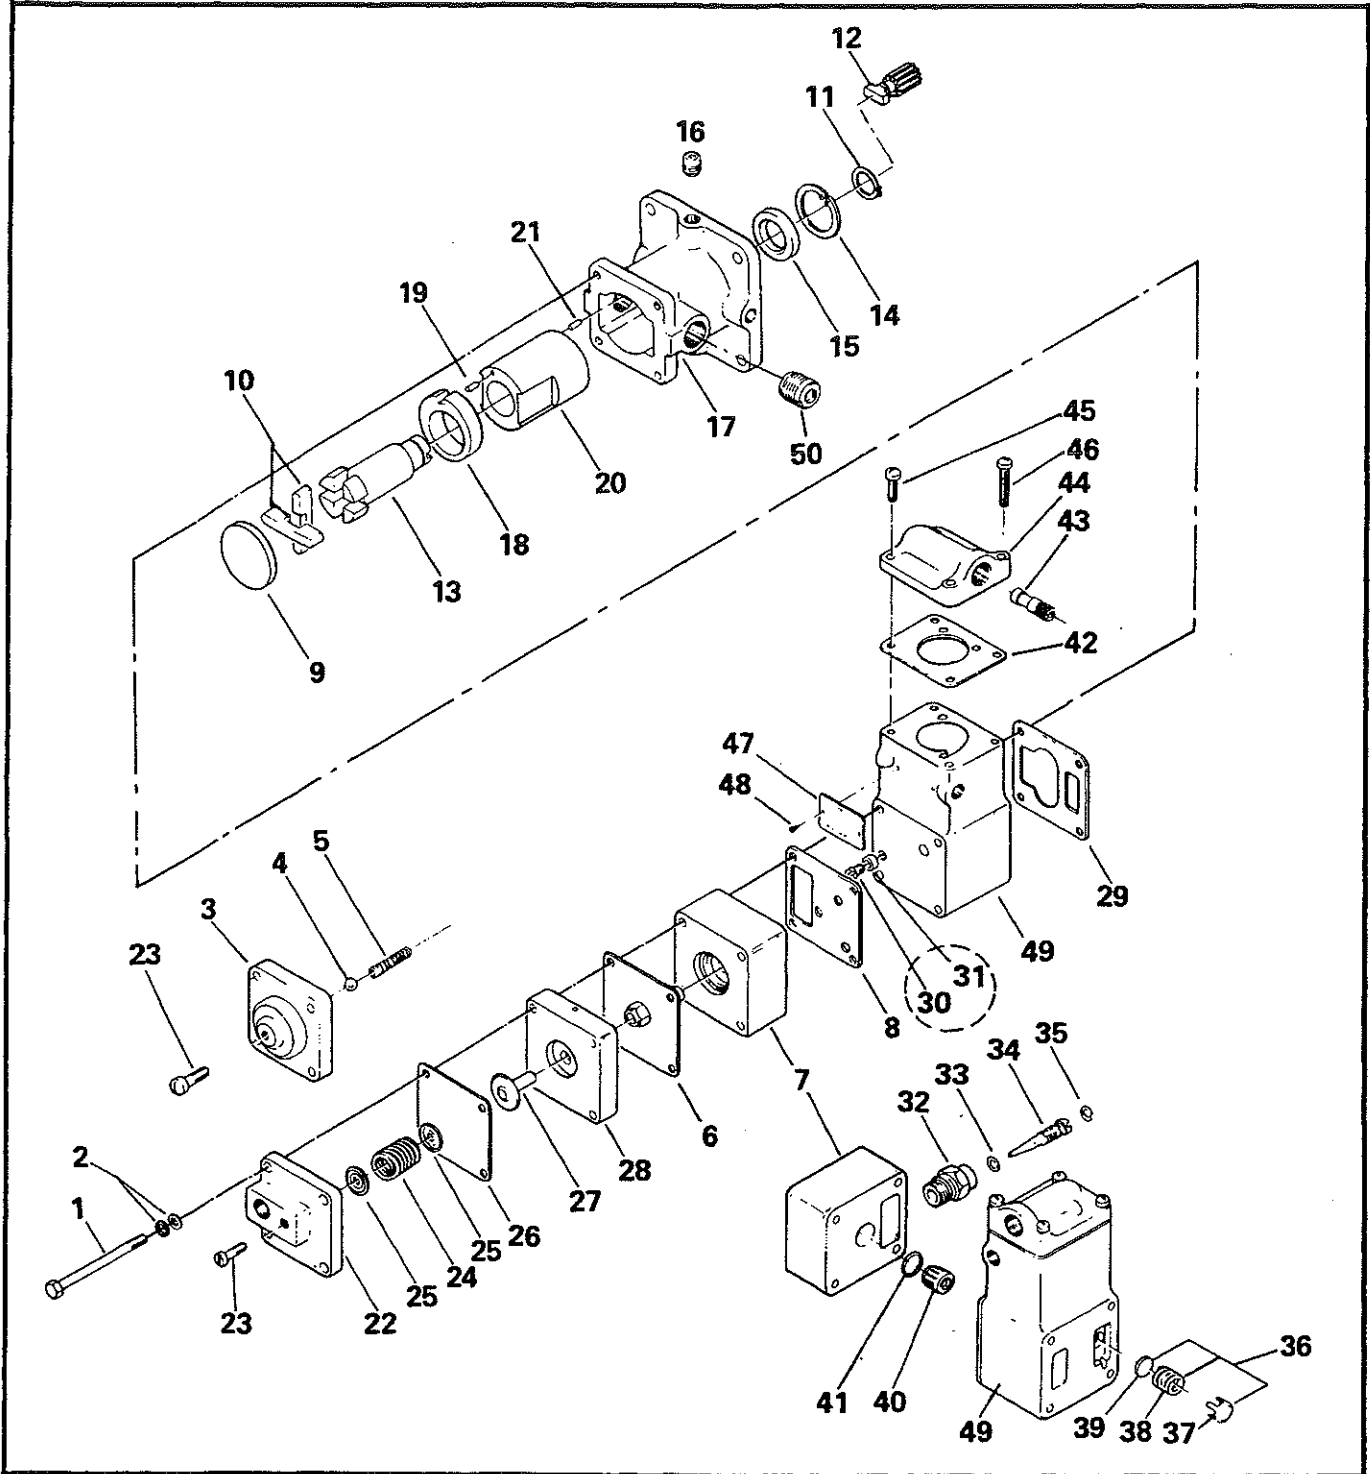

FIGURE 30-02. FUEL PUMP ASSEMBLY.
A. Place injection pump in suitable fixture. Remove all lockwire; and fittings if necessary. Refer to exploded view (Figure 30-02) and proceed as follows: For TSIO equipment see (C) below. Loosen screw (23) to relieve pressure on relief valve spring. Remove four bolts (1). Separate parts (7, 3 and 49), using care not to damage parting surfaces. Remove relief valve (6), ball (4) and spring (5).
B. Remove from relief valve body (7) the following parts: By-pass plug (40) and "O" ring (41).
A. Reassemble basic pump in reverse order of disassembly. Refer to exploded view (Figure 30-02) and proceed as follows: Install seal (15) in pump body (17) using seal tool. Install retaining ring (14) at this time. Install rotor shaft (13) in bearing (20) and through liner (21). A light coat of oil on the blades, shaft and seal lip will assist in the installation and assure lubrication for the first few revolutions. Install coupling (12) and retaining ring (11). Before installing blades (10), press rotor shaft down to seat on top of bearing. Install blades in slots of rotor shaft and rotate shaft. Install thrust plate (9). This completes assembly of the basic pump.